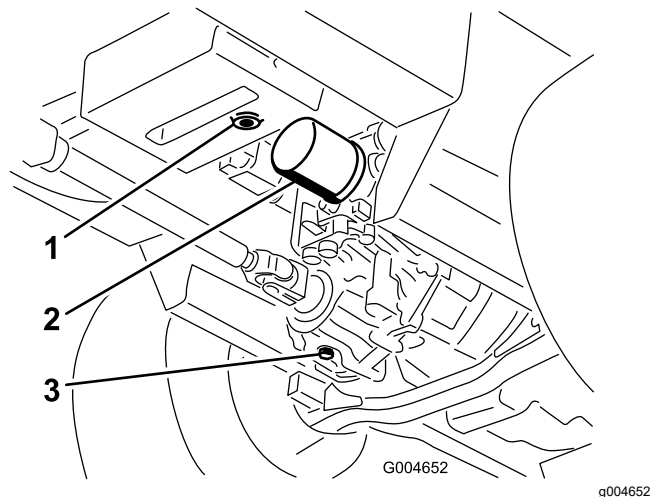

Figure 64
3. Place a large pan under the hydraulic reservoir and transmission case and remove the plugs, draining all of the hydraulic fluid (Figure 64).
4. Clean the area around the hydraulic fluid filter and remove the filter (Figure 64).